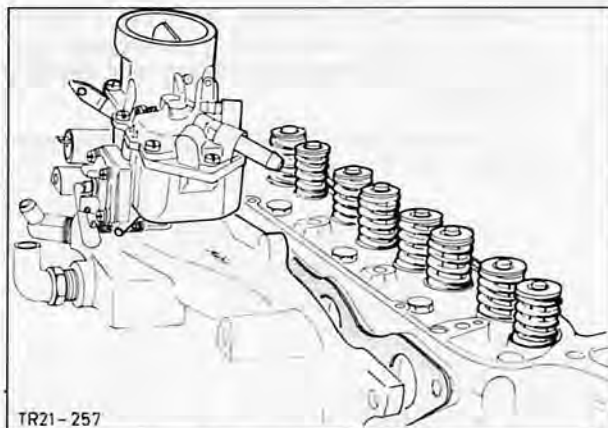

Fig. 147. Remove inlet manifold with carburettor
1. Remove inlet manifold (5 bolts) complete with carburettor, Fig. 147, and exhaust manifold (6 nuts) from cylinder head.
2. Remove exhaust manifold studs (6) and temperature sender unit.